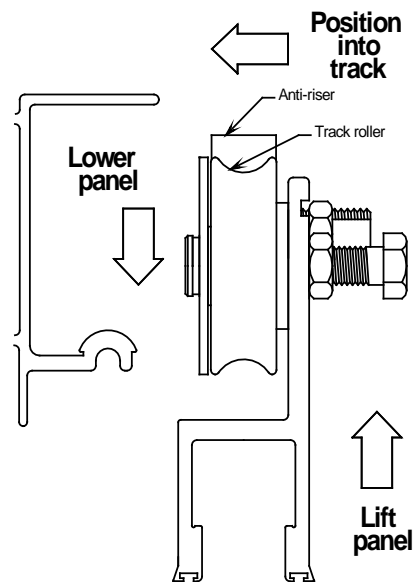

Figure 21
2. Lift door onto track. Slightly tilting the door approach angle may be necessary to allow rollers to catch the track. (See Figure 21)